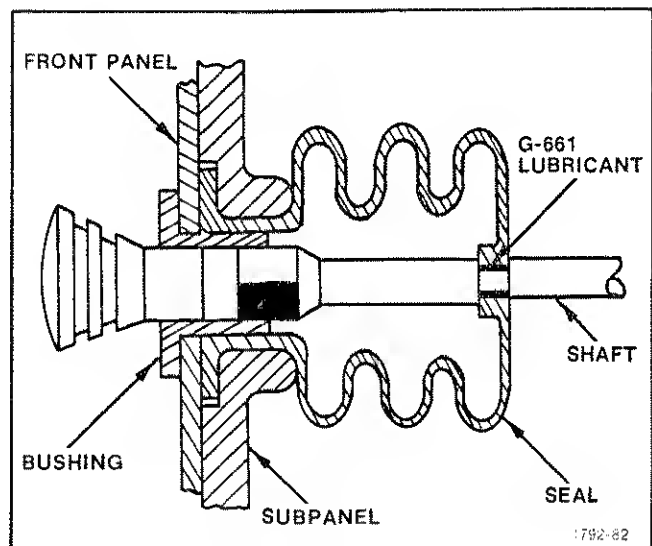

Fig. 5-29. Installation of the POWER switch.
26. Install Power Switch Shaft into Front Panel (see Fig. 5-29)
3. Install as shown in Fig. 5-29.